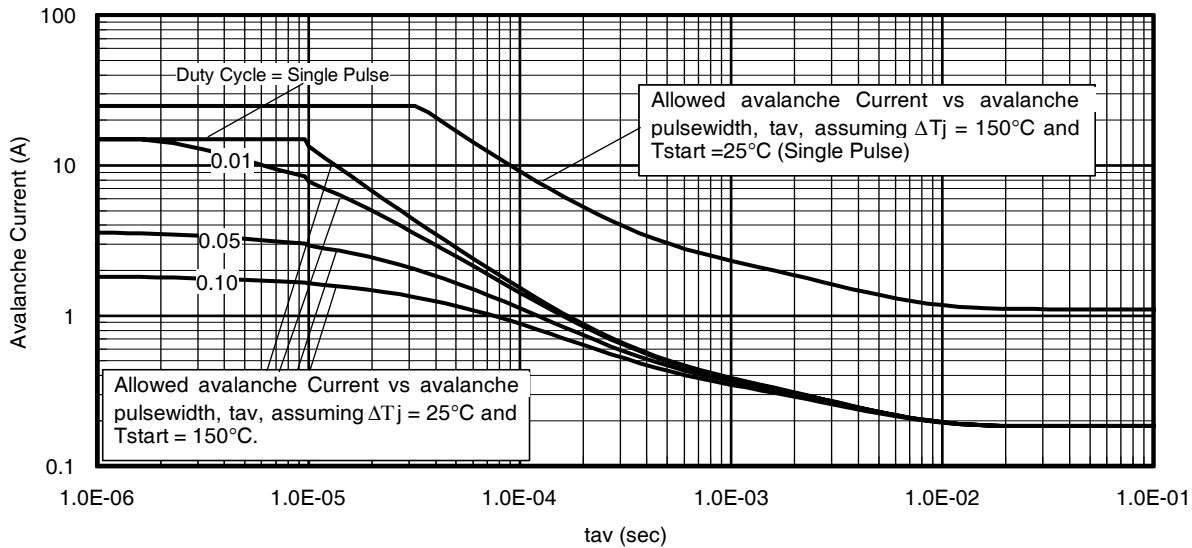

Fig 14. Typical Avalanche Current vs. Pulsewidth
Notes on Repetitive Avalanche Curves, Figures 14, 15:
7. ΔT = Allowable rise in junction temperature, not to exceed T_{jmax} (assumed as 25°C in Figure 14, 15).